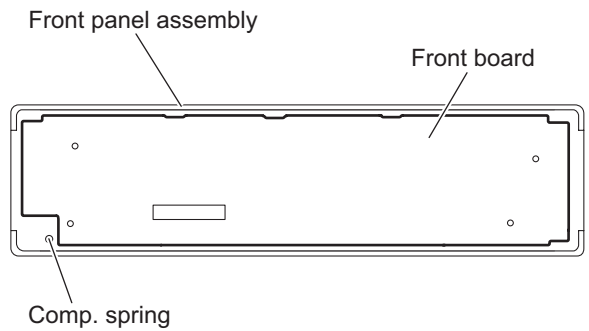

Fig.17
- (3) From the left side of the front panel assembly, pull out the knob in the direction of the arrow 2 while pulling the front board in the direction of the arrow 1. (See Fig.17.)
- (4) Take out the front board from the front panel assembly. (See Fig.17.)
When removing the rear cover assembly and front board, be careful not to lose the comp. spring. (See Fig.17.)